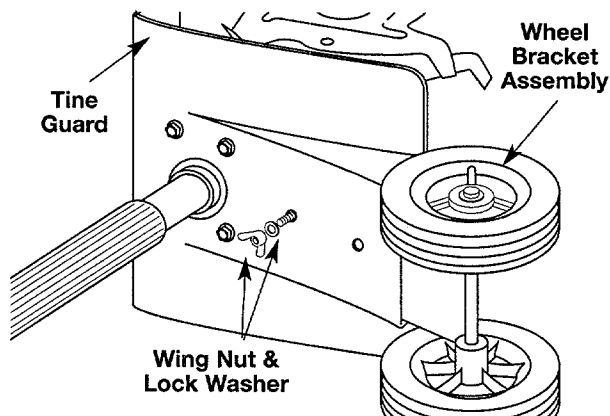

Figure 2
1. With the unit on it's side, place the wheel bracket assembly on the underside of the tine guard. See Figure 2.
3. On the top side of the tine guard, install a lock washer and a wing nut onto each of the bolts. See Figure 2.